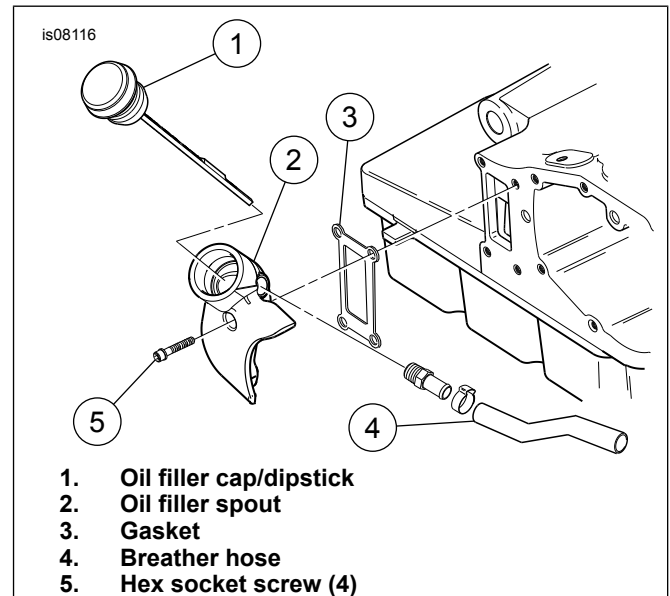

Figure 1. Remove Oil Filler Spout (FLT Models Only)
3. For all except FLT Models: See the Service Manual. Install the new starter. Proceed to Step 4. For FLT Models: See Figure 1. When installing this starter on FLT model motorcycles, remove the oil filler spout. To remove the oil filler spout on FLT Models: Screws are difficult to reach, but can be carefully removed without disconnecting the exhaust system.
- b. Remove the oil filler cap/dipstick (1) and set aside.
- c. Leave the breather hose (item 4, if so equipped) to the oil filler spout (2). Remove the four hex socket screws (5) holding the spout to the transmission housing. Remove the oil filler spout. Wrap with a shop rag and set aside, out of the way.
- f. Place the new gasket (3) in position, and re-attach the oil filler spout. Tighten the screws to 7-9 ft-lbs (9.5- 12.2 Nm).